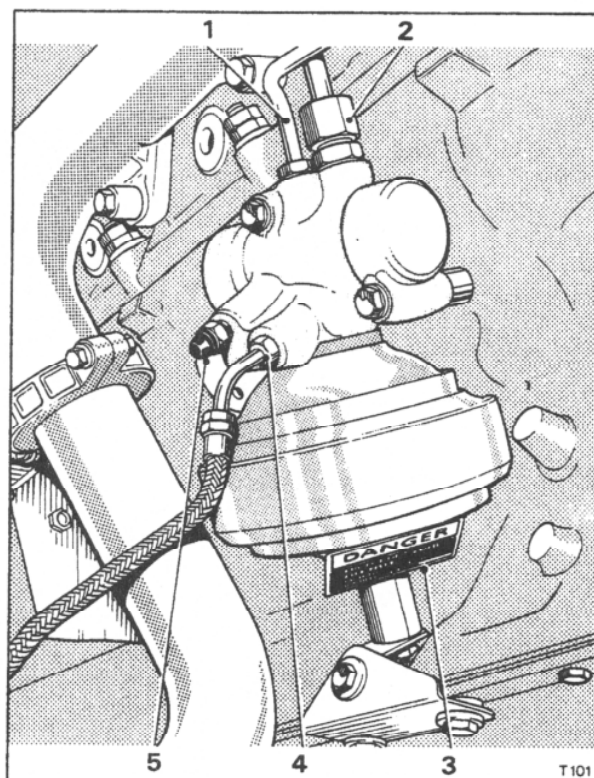

Fig. G10 Front hydraulic accumulator
2. Unscrew the worm drive clip on the fluid return hose, (see Figs.G10 and G11) clamp the hose to prevent fluid flow and withdraw it off the connecting pipe. Blank off the hose to prevent loss of fluid.